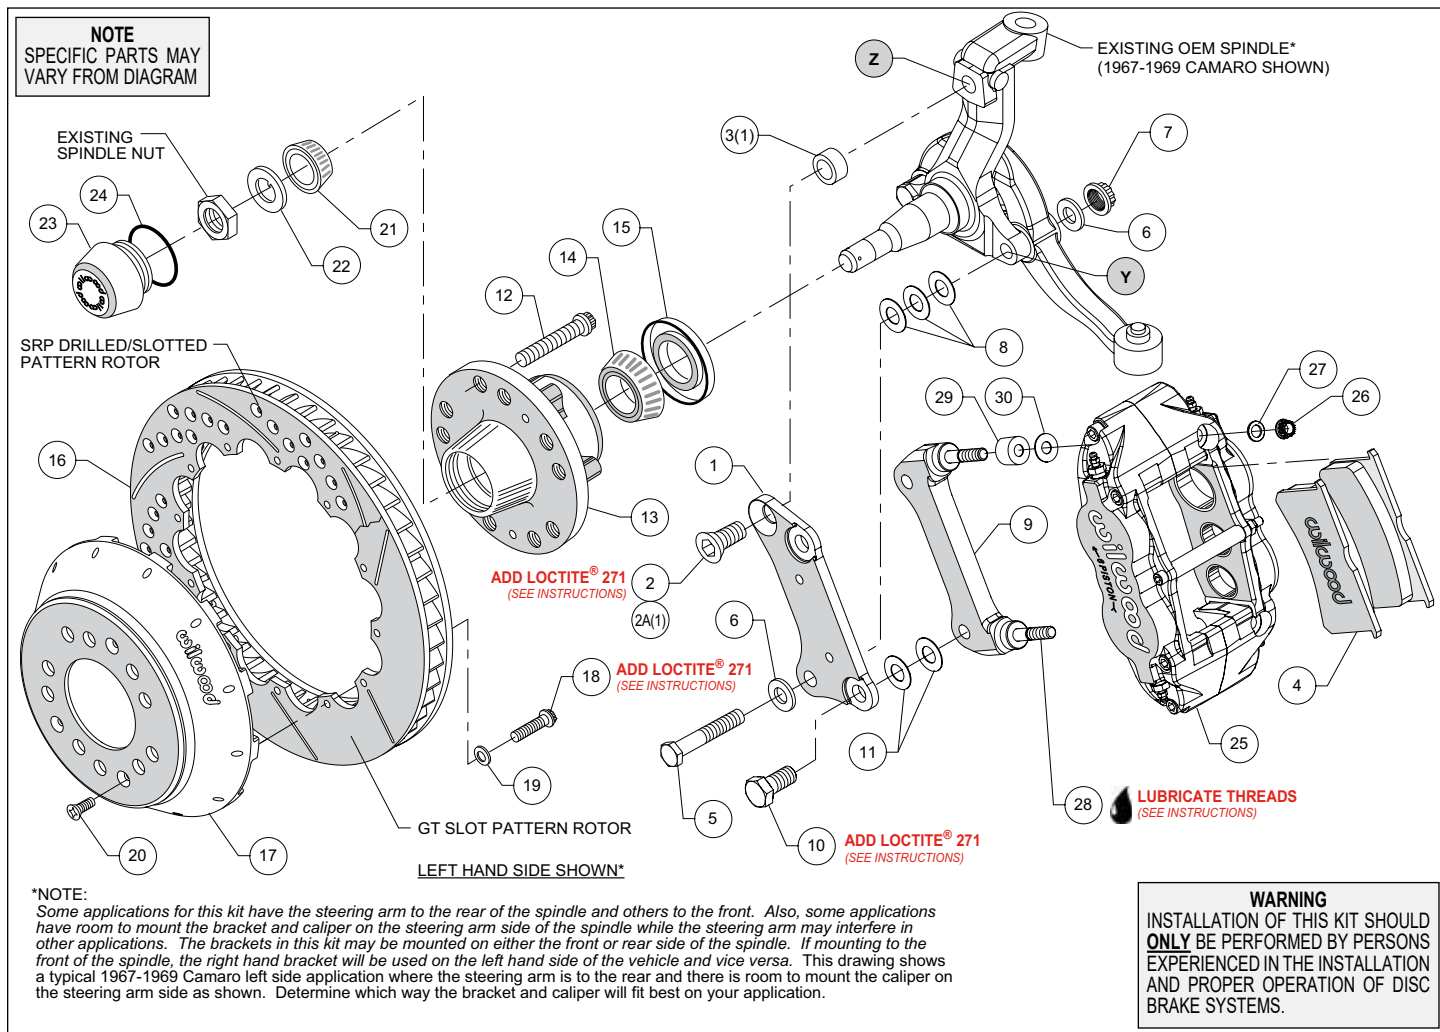
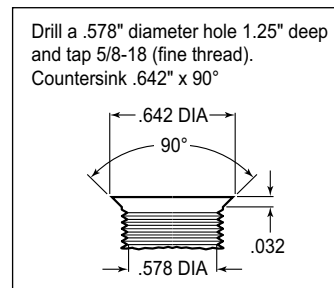
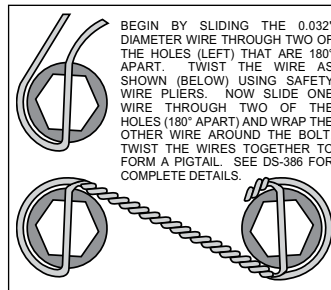

Figure 1. Typical Installation Configuration
Figure 3. Drill and Tap Detail
Figure 4. Safety Wire Diagram
**NOTE:** Numbers in parenthesis refer to the parts list and Figure 1 on the preceding pages.
**NOTE:** Some applications for this kit have the steering arm to the rear of the spindle and others to the front. Also, some applications have room to mount the bracket and caliper on the steering arm side of the spindle while the steering arm may interfere in other applications. The brackets in this kit may be mounted on either the front or rear side of the spindle. If mounting to the front of the spindle, the right hand bracket will be used on the left hand side of the vehicle and vice versa. Figure 1 shows a typical 1967-1969 Camaro left side application where the steering arm is to the rear and there is room to mount the caliper on the steering arm side as shown. Determine which way the bracket and caliper will fit best on your application.
**NOTE:** Some spindles in this year range may require the following modifications (reference Figure 1 and Figure 3): Top anchor pin hole (Z) must be drilled and tapped to the dimensions as outlined in Figure 3. The lower bolt hole (Y) in the spindle used to mount the new caliper bracket, and the mating steering arm hole, must be enlarged to .50" by drilling. It is recommended these modifications be performed by a qualified machinist.
Orient the rotor (16) and the hat (17) as shown in Figure 1 and Photo 3. Attach rotor to hat using bolts (18) and washers (19). Using an alternating sequence, apply red *Loctite*® 271 to the threads, and torque to 155 in-lbs. For an added measure of security, the bolts may be safety wired using standard 0.032 inch diameter stainless steel safety wire as shown in Figure 4. Please refer to Wilwood's data sheet DS-386 (available at [www.wilwood.com/Pdf/DataSheets/ds386.pdf](http://www.wilwood.com/Pdf/DataSheets/ds386.pdf)) for complete safety wire installation instructions.
•**Disc Brake Spindle Application Only:** Follow the instructions below, but instead use bolt (2A), and spacer (3) in the upper bolt hole location, Figure 1.
•Orient the flat bracket (1) as shown in Figure 1 and Photo 4, and install using bottom bolt (5), washers (6), and nut (7), Figure 1. Initially place three .032" thick shims (8) between the bracket and spindle. Install the upper bolt (2 or 2A). Temporarily tighten bolts. **NOTE:** *The bracket must fit squarely against the mounting surfaces on the spindle.* Inspect for interference from casting irregularities, machining ridges, burrs, etc. Temporarily install the new hub, hat and rotor assembly. Check that the bracket is aligned parallel to the rotor, Photo 5. If not, adjust by adding or subtracting shims (8) on the lower bolt between the bracket and spindle, Figure 1. Once the bracket alignment is correct, remove the upper bolt (2 or 2A), apply red *Loctite*® 271 to the bolt threads, and torque to 120 ft-lb. Torque the lower lock nut to 65 ft-lb.
•The radial mount caliper bracket (9) should initially be installed with clean, dry threads on the mounting bolts. Orient the bracket as shown in Figure 1 and Photo 6, and install using bolts (10). Initially place two .029 thick shims (11) on each bolt between the two brackets, Figure 1. Temporarily tighten the mounting bolts. Later, after the caliper alignment has been checked, the mount bolts will be secured using red *Loctite*® 271.
•Pack the small outer bearing cone (21) with high temperature disc brake bearing grease and install into hub (13). Final install the hub assembly onto the spindle. Secure using spindle washer (22) and OEM spindle nut, Photo 7. Adjust bearings per OEM specifications. Install saved OEM nut lock (if any) and a new cotter pin (not included).
•Screw dust cap (23) into hub (13). Friction created by the o-ring (24) on the dust cap keeps it from unscrewing. **NOTE:** *The O.D. of the existing OEM spindle washer may be larger than the I.D. of the dust cap not allowing it to seat against the hub face. Therefore, use the spindle washer (22) supplied with the kit instead of the OEM washer.*
•Final install the rotor (16 and 17) assembly onto the hub (13), taking care to align the small countersunk holes in the hat with the small threaded holes in the hub. **NOTE:** *The hat must fit flush against the hub face or excessive rotor run out may result.* Install three flat head screws (20) through the small holes in the hat (17), Photo 8, and torque to 85 in-lb.
•**NOTE:** *This kit contains distinct right and left hand calipers that must be mounted in a specific direction, as described below.* Lubricate the caliper mounting studs (28) with lightweight oil. Initially place spacer (29) and one .035" thick shim (30) on each stud between the caliper and the bracket, as shown in Figure 1 and Photo 9. Mount the caliper (25) onto the bracket (9) using lock nuts (26) and washers (27), Figure 1. Ensure that the caliper is mounted so the largest pistons are at the rotor exit end of the caliper, in relation to the direction of rotor rotation. Temporarily tighten the lock nuts. The rotor should be centered in the caliper, Photo 10. If not, adjust by adding or subtracting shims (11) between the flat bracket (1) and the caliper bracket (9). Always use the same amount of shims on each of the two mounting bolts. Once the caliper alignment is correct, remove the bracket mounting bolts one at a time, apply red *Loctite*® 271 to the threads, and torque to 77 ft-lb.